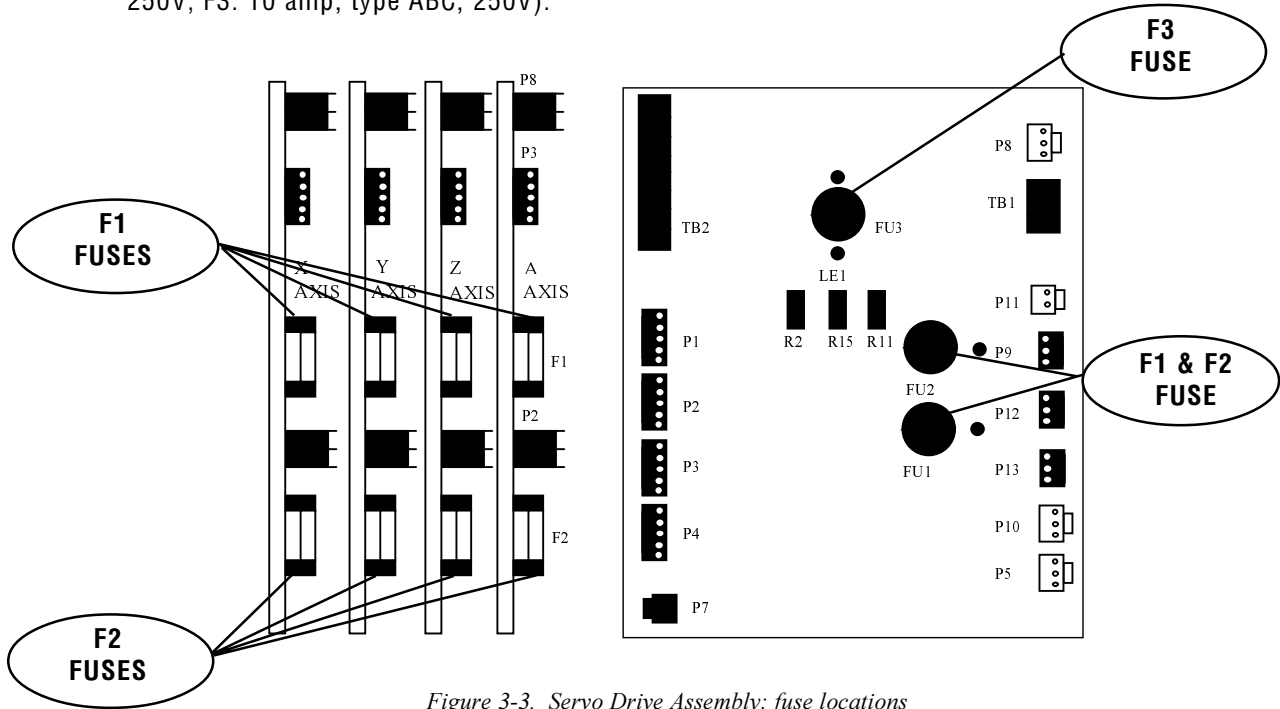

Figure 3-3. Servo Drive Assembly; fuse locations
- On the SERVO DRIVE ASSEMBLY, there are three fuses on the SDIST panel, and three individual fuses on each of the SERVO DRIVE boards (See Fig. 3-3; the F3 fuses are not shown).